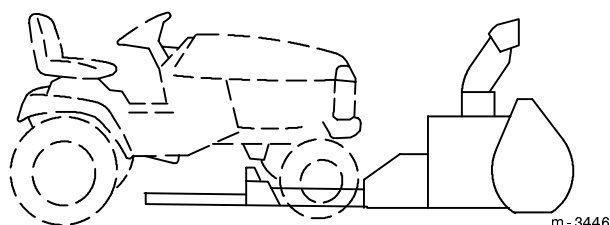

Figure 9
2. Park the tractor over the snowthrower lift rod between the tractor wheels (Fig. 9). Lower the attachment lift and turn the ignition key to "STOP" to stop the engine. Remove the key.
- Continue pulling the tractor toward the snowthrower until the end of the snowthrower frame is directly below the mid Attach-A-Matic™ hitch (Fig. 9).